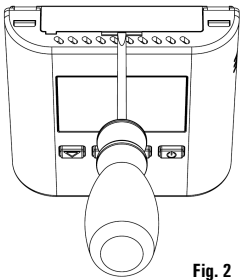

Fig. 2
- 1 Extract the battery holder drawer: insert the flat-blade of a screwdriver tip in the hole and pull up the drawer as shown in figures 2 and 3.